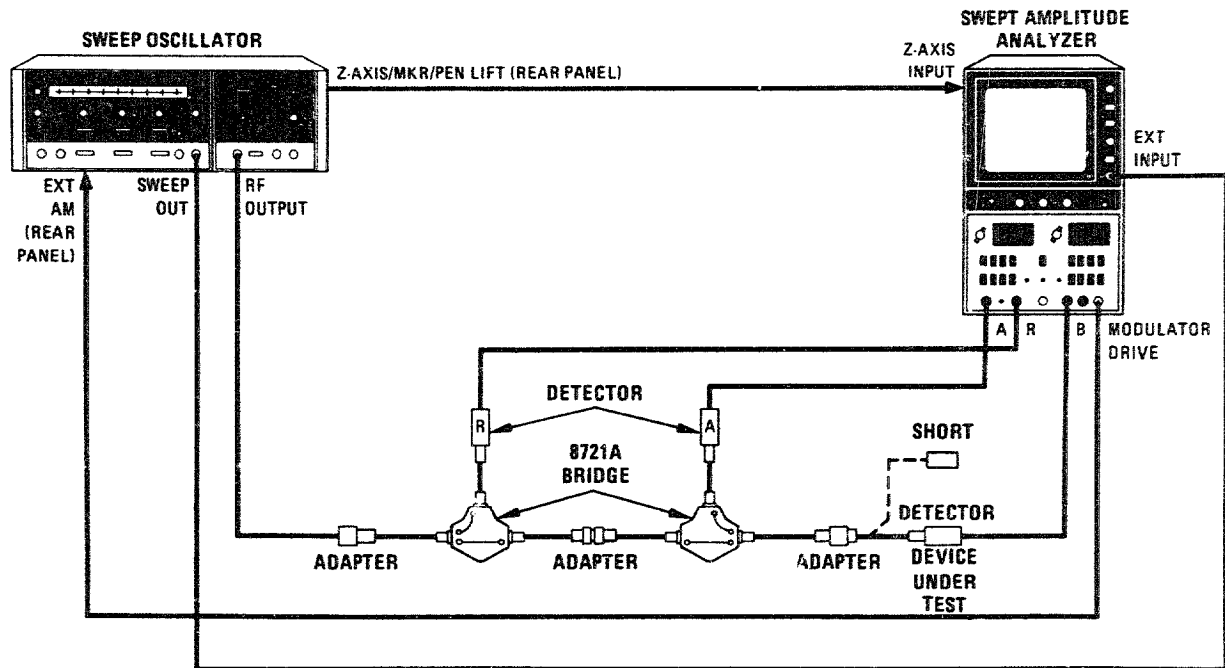

Figure 4-3. Return Loss Measurement Test Setup, 10 to 100 MHz.
19. Connect equipment as shown in Figure 4-3 with the short connected to the LOAD port. Note: this test setup configures two 8721A Bridges into a dual directional bridge.